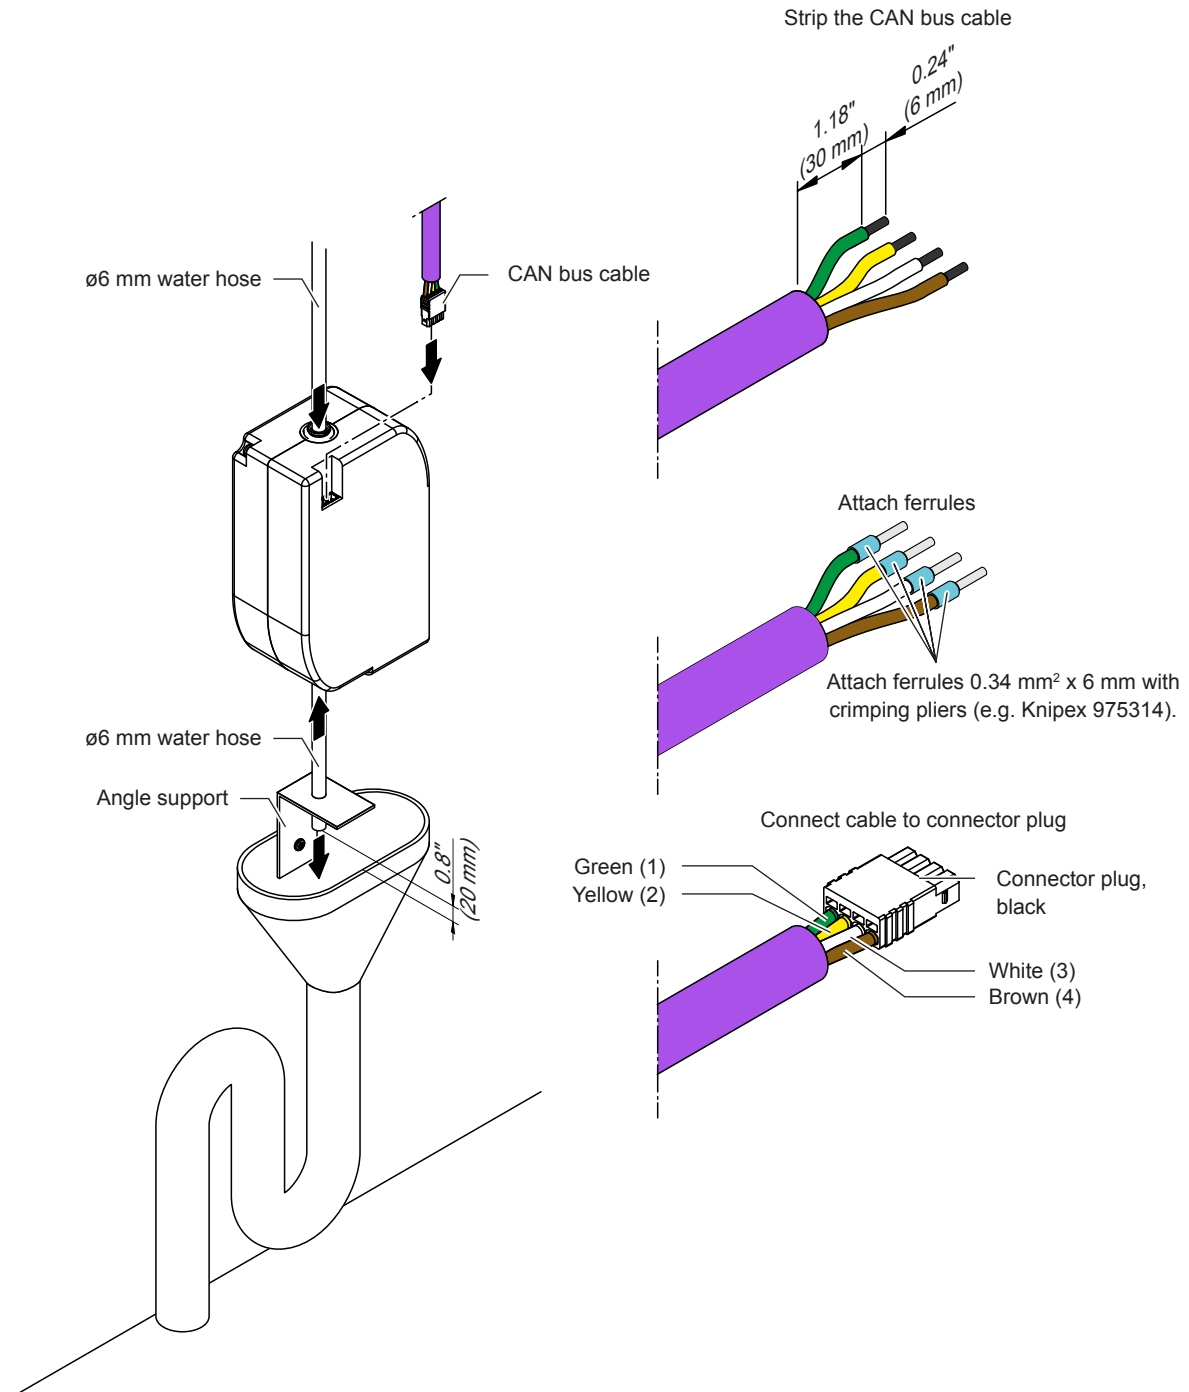

Fig. 34: Connect external drain module
1. Connect hoses according to Fig. 34 appropriately.
2. Prepare the CAN bus cable, attach the plug to the CAN bus cable (see Fig. 34) and connect the CAN bus cable to the drain module.